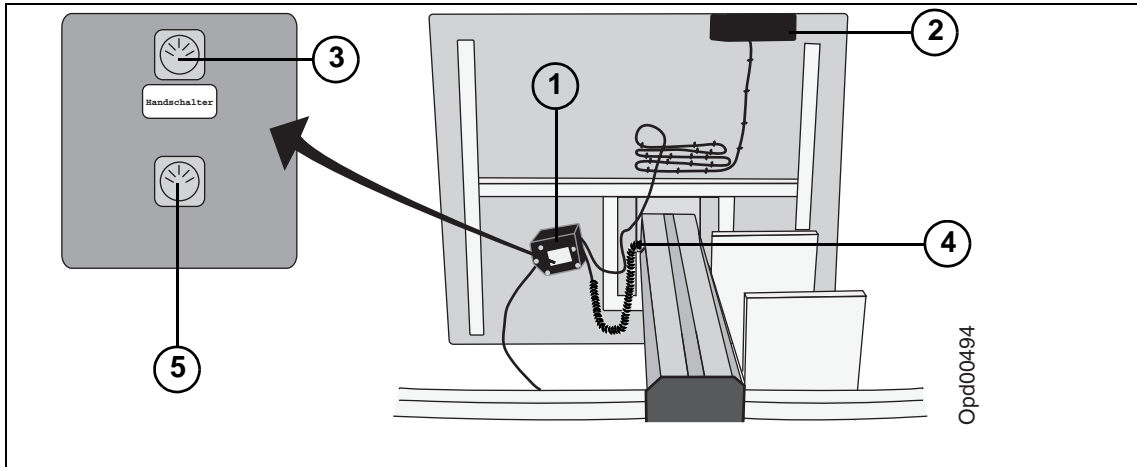

Fig. 6 Transformer
1. Remove the screws on the underside of the tabletop and use them when mounting the transformer (1/Fig. 6).
2. Connect the cable from the control unit (2/Fig. 6) for the vertically adjustment to the connector marked "Handscharter" (3/Fig. 6).
3. Connect the cable from the motor (4/Fig. 9) for the vertically adjustment to the other connector (5/Fig. 6).